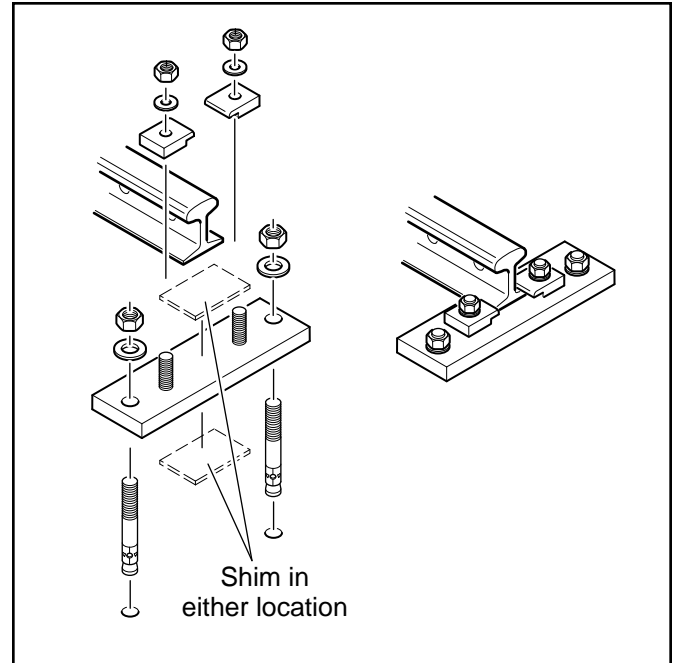

Figure 2.6 Rail Anchor
2. Install rail anchor clips, lock washers, and nuts. Shims may be used to obtain the correct elevation of the rails. See Figure 2.6.